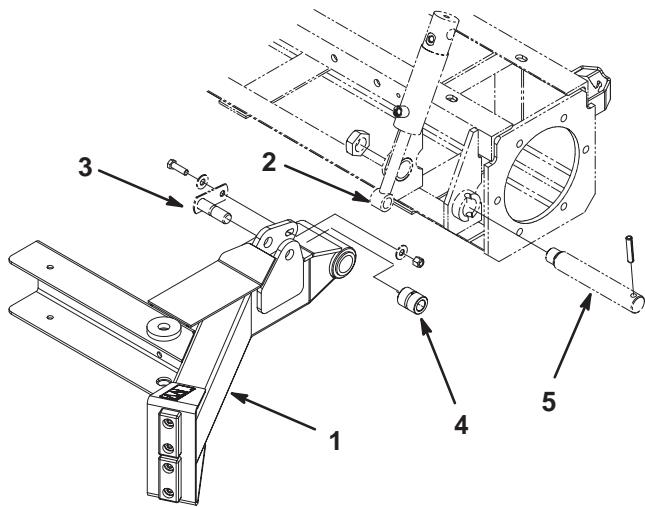

Figure 8
1. Mount left lift arm assembly to frame with lift arm pin and nut previously removed (Fig. 8). Torque to 60–70 ft-lb.
2. Mount cylinder end to lift arm with cylinder pin, spacer (GM 4100 only), 3/8 x 1–1/4" lg. screw, .406 x .813 flatwasher and 3/8 flange locknut. (Fig. 8). Torque to 27–33 ft-lb. Spacer to be positioned between lift arm plates and on cylinder pin when installed in cylinder end.